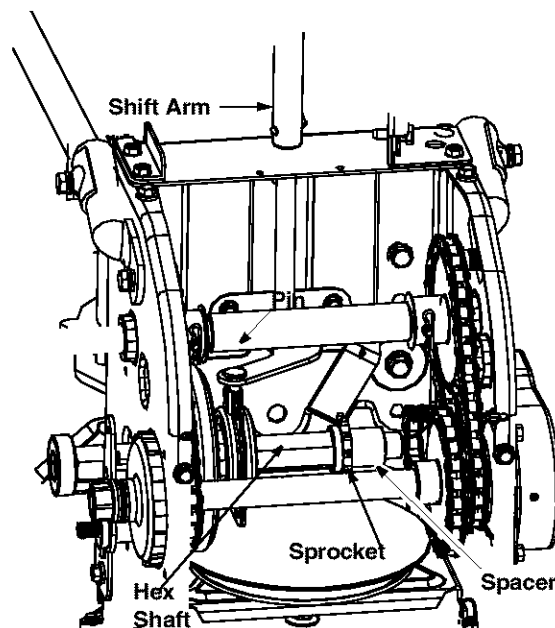

Figure 37
- Insert the pin from the shift arm assembly into the friction wheel assembly and hold assembly in position. See Figure 37.
- Insert the hex shaft through the sprocket and the spacer. See Figure 37. Make certain that chain engages both the large and the small sprocket.
**NOTE:** If the sprocket fell from the snow thrower while removing the hex shaft, place the sprocket on the hex shaft. Position the hex hub of the sprocket toward the friction wheel when sliding the sprocket on to the hex shaft. See Figure 37.